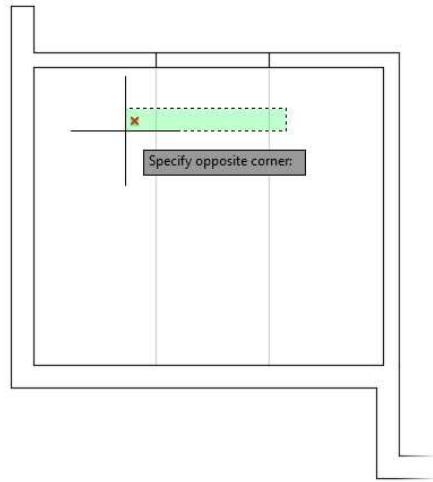

FIGURE 4.34: Using a crossing window in conjunction with the Shift override within the EXTEND command to trim lines
5. With the EXTEND command still active, press and hold the Shift key. Keeping it pressed, select a point to the right side of the bathroom and then another to the left, as shown in Figure 4.34.